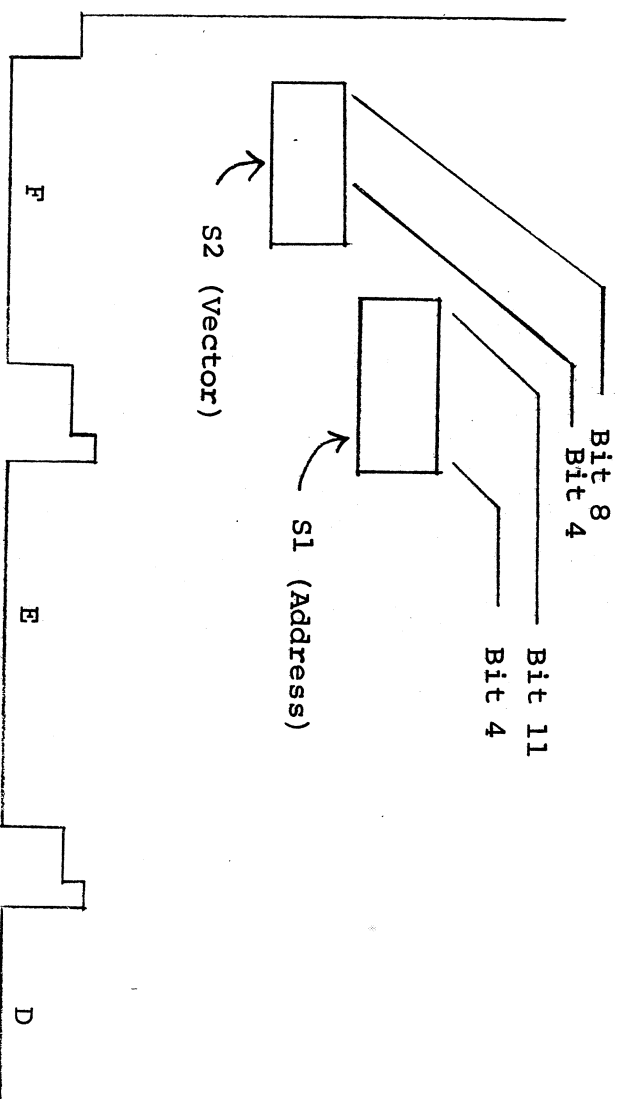

Figure 2: Switch Location
Location of the address switches on the module is shown in figure 2. The switches are set "on" for a 0 and "off" for a 1, i.e. to set up 770400, all switches are "on" except for the bit 8 switch.
- Location of the vector switches on the module is shown in figure 2. The switches are set "on" for a 1 and "off" for a $\emptyset$ (note that this is opposite to the address switches), i.e. to set up a vector of 34 $\emptyset$, bits 7, 6 and 5 are "on" and bits 8 and 4 are "off".